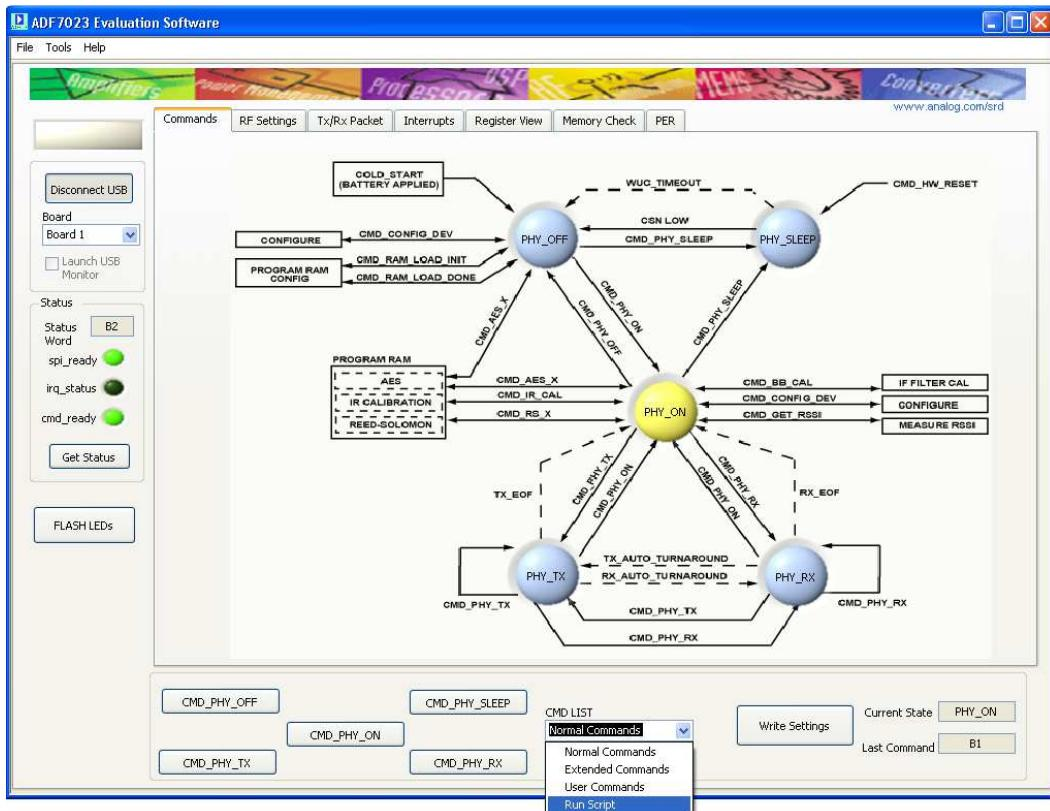

Figure 41
1. Select “Run Script” from the “CMD LIST” drop down menu as shown in *Figure 41*.